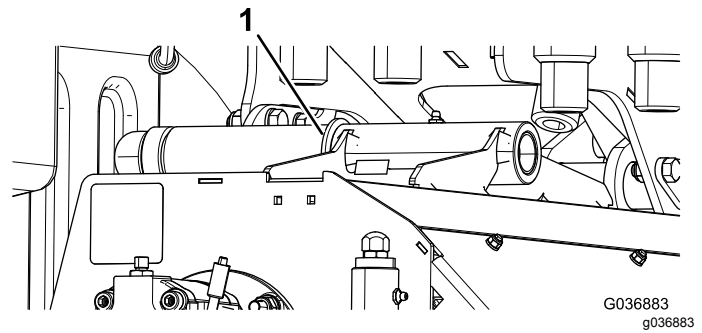

Figure 77
**Note:** Retain the washer on the center cutting unit between the arm and the pivot casting, as well as the other hardware (Figure 77).
- Note:** Install the existing washer on the center cutting unit between the arm and pivot casting (Figure 77).